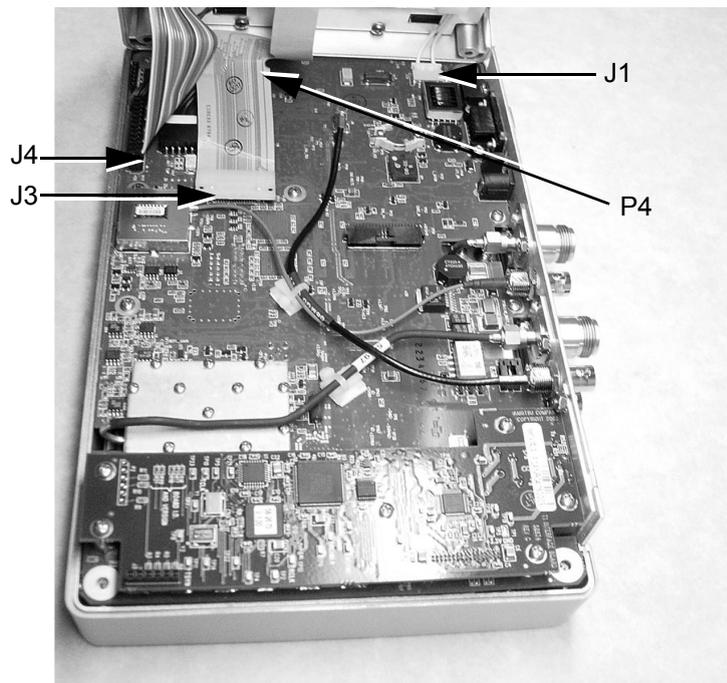

Figure 4-2. Cell Master Front Panel Cable Connections
- Carefully depress the latch tab and disconnect the LCD display cable from J3 on the main PCB (Figure 4-2).